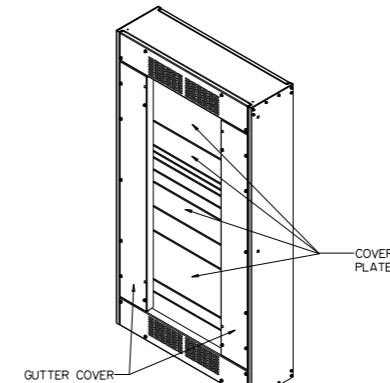

Figure 1
- Reference fig. 1 - Remove the (2) gutter covers, deadfront and all cover plates.